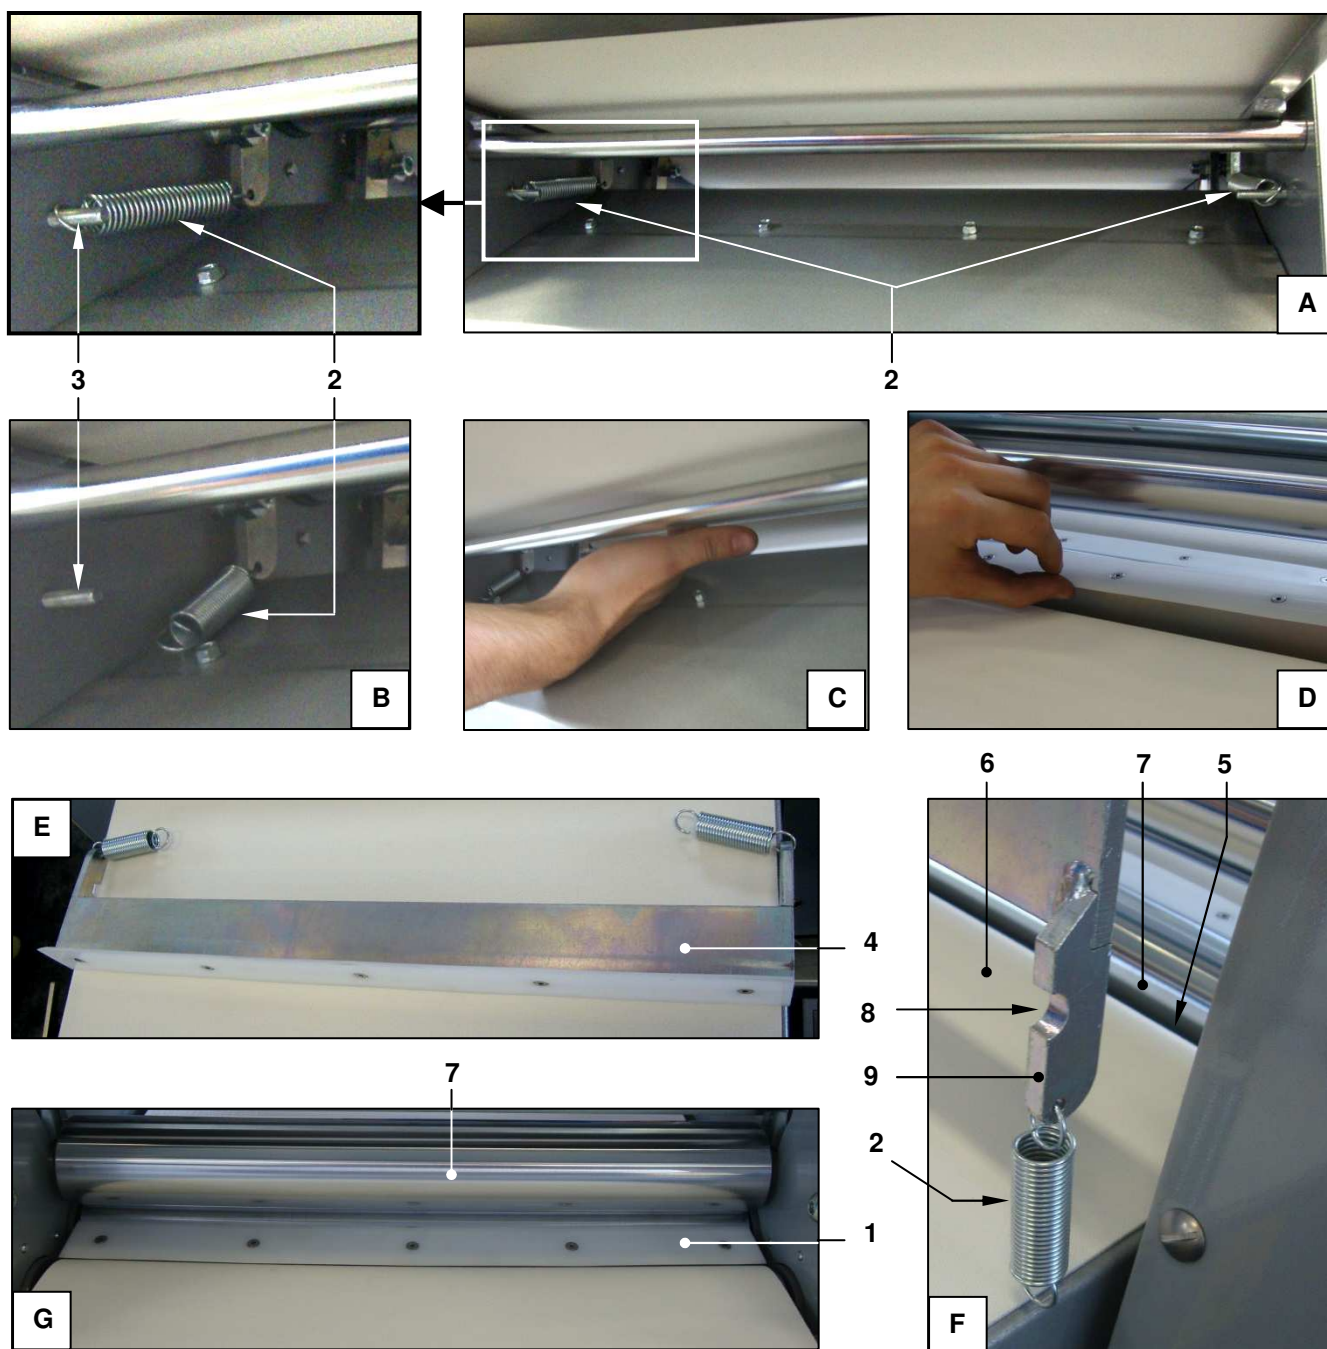

Figure 34 - Mod. SF450: removing/installing the lower roller scrapers
With reference to Figure 34, **to remove a scraper** ref. 1 with the relative support and springs:
- unhook both springs ref. 2 from the pins ref. 3 (photos A - B)
**To install a scraper** ref. 1:
- lower the scraper unit ref. 4 into the space ref. 5 between the conveyor belt ref. 6 and the roller ref. 7. The notch ref. 8 must be facing the side opposite the roller ref. 7 (photo F). The plates ref. 9, to which the springs are hooked ref. 2, must descend easily and smoothly (the springs ref. 2 must not stop against other parts)
- bring the scraper ref. 1 to rest in its lowest position (photo G)
- hook the springs ref. 2 onto their respective pins ref. 3 (photos B - A)